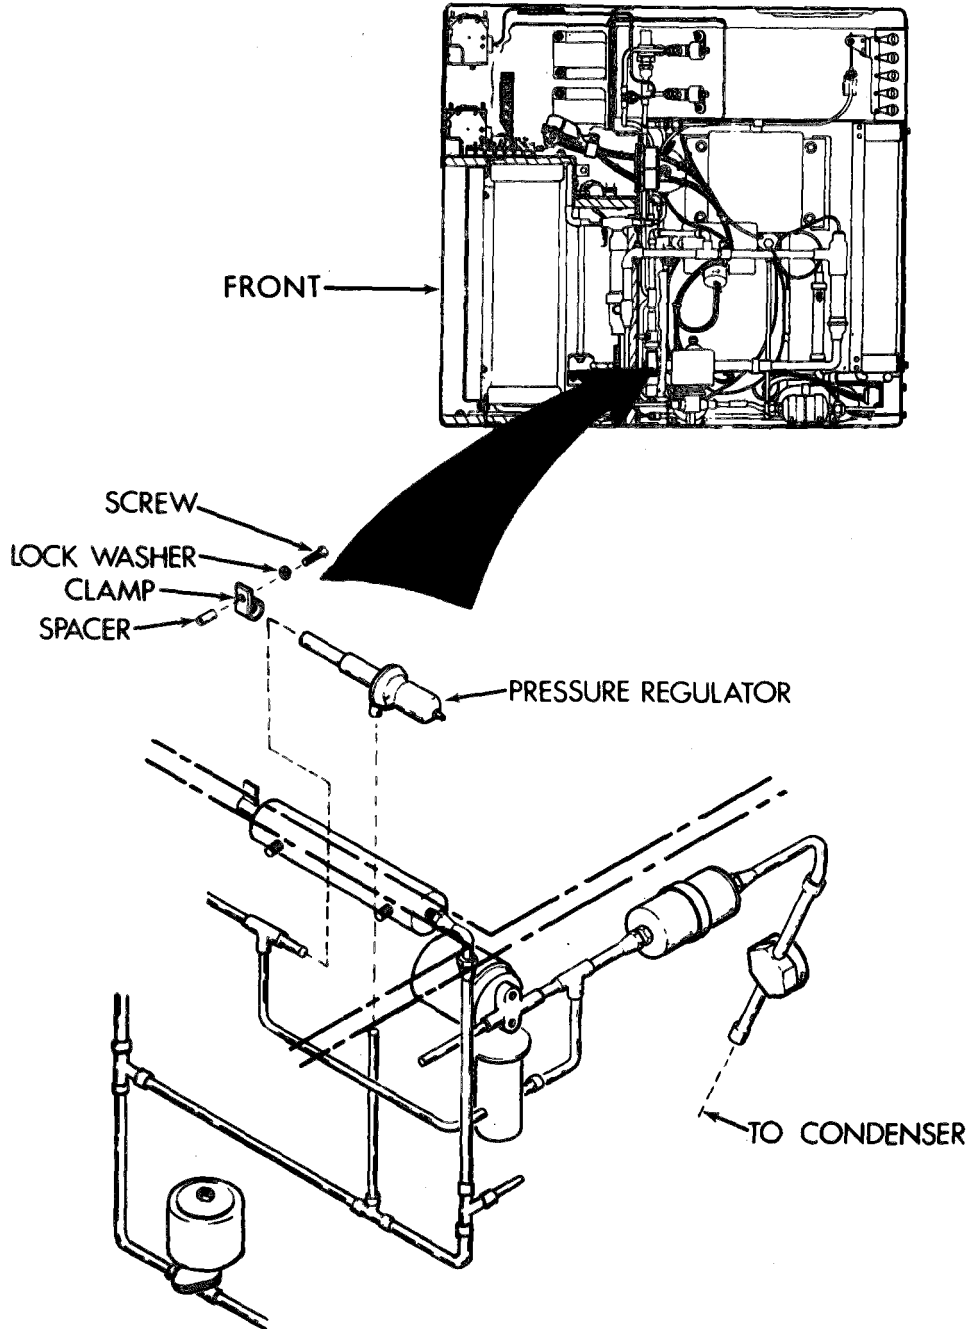

Figure 5-13. Pressure Regulator
- a. Removal. (See fig. 5-13.)
- (1) Disconnect power at power source.
- (2) Remove top front and rear covers (para 4-11).
- (3) Discharge and purge refrigeration system per paragraphs 5-11 and 5-12.
- (4) Remove screw, lock washer, clamp, and post spacer.
- (5) Debraze two tube connections and remove pressure regulator.